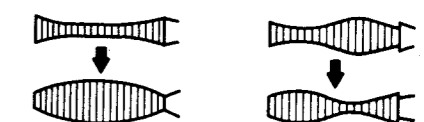

Fig. 1-4-13 Abnormal variation of the waveform
8. If the envelope varies as shown in Fig. 1-4-13, adjustment of the S, T-guide rollers may be upset, and perform the adjustment again.